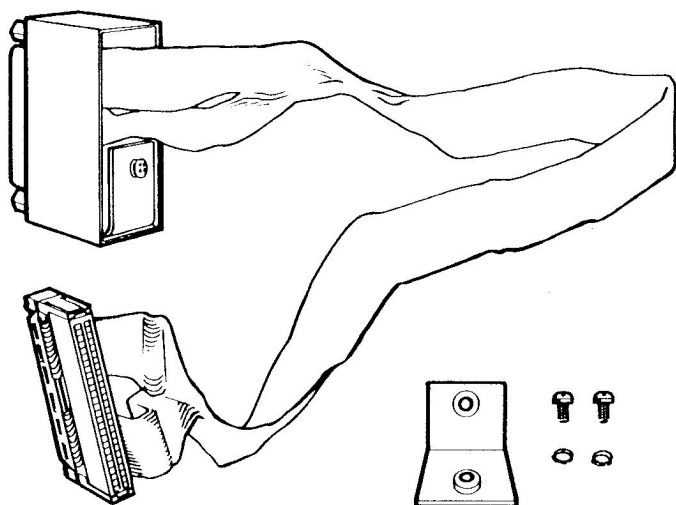

Fig. 3 Ribbon cable and IIE L-bracket
- The ribbon cable, metal cable clamp and Apple IIe L-bracket, depicted in Figure 3.